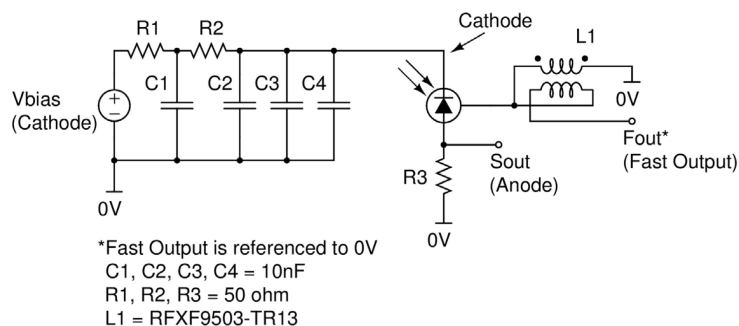

Figure 2. The schematic for the MicroFC-SMA-30035 board.
- The schematic of the board is shown in Figure 2, with the two outputs, Sout and Fout, labelled.